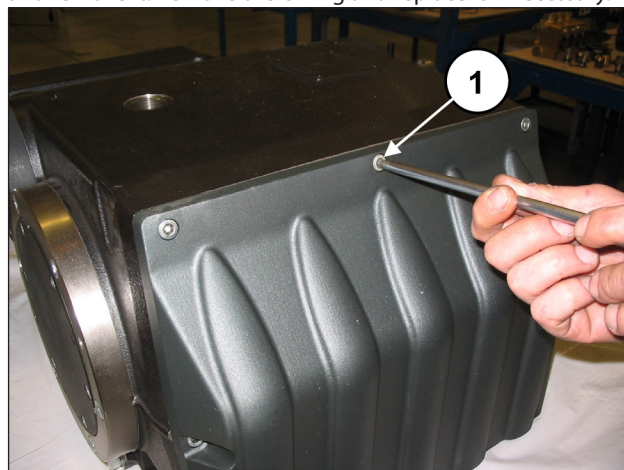

Fig. 9
Unscrew the casing cover attachment screws (pos. ①, Fig. 9) and remove it. Remove the O-ring and replace it if necessary.